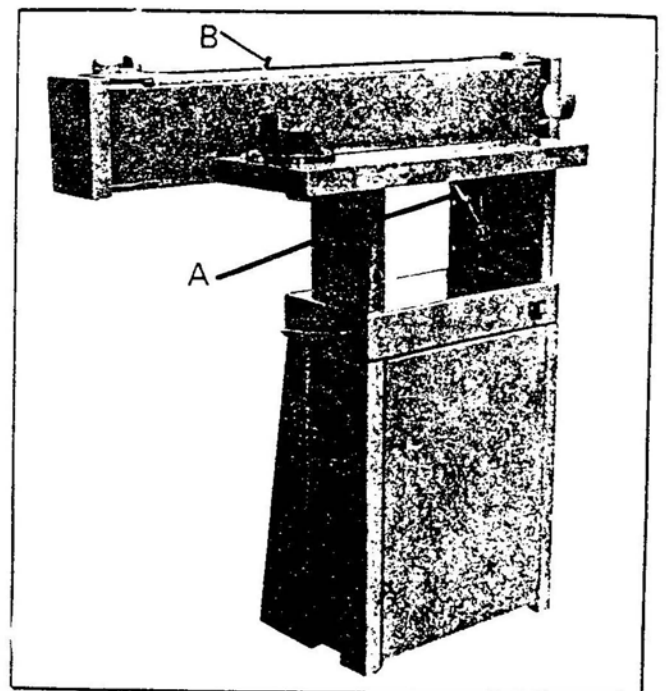

Fig: 4
1. SANDING TABLE CAN BE ADJUSTED $90^{\circ} - 180^{\circ}$, SEE FIG. 4
2. ADJUST CLAMP HANDLE (B) AT DESIRED TO CHANGE NEW BELT. SEE FIG. 4
3. LOOSEN ANGLE LOCK KNOB (A) TO SET AND TIGHTEN THE ANGLE